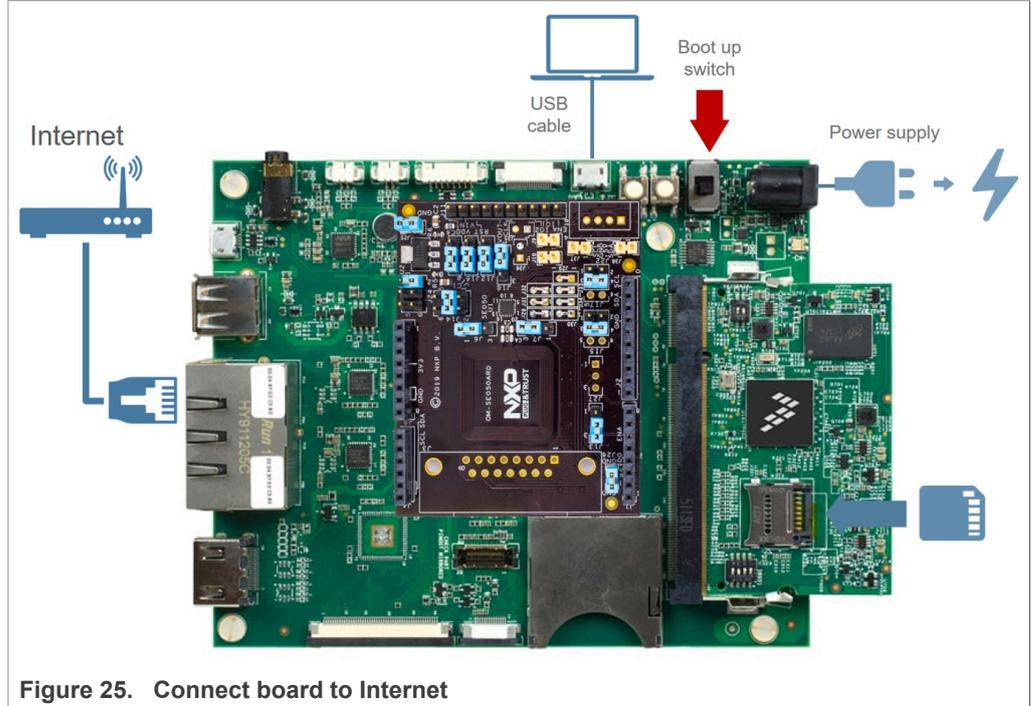

Figure 25. Connect board to Internet
- 1. Connect the board to Internet using an Ethernet cable and boot up the i.MX6UltraLite board as shown in Figure 25: